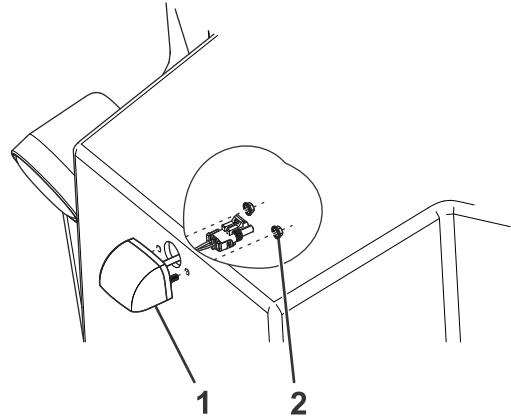

Figure 7
10. Connect the light-kit wire harness to the light kit light (Figure 7).